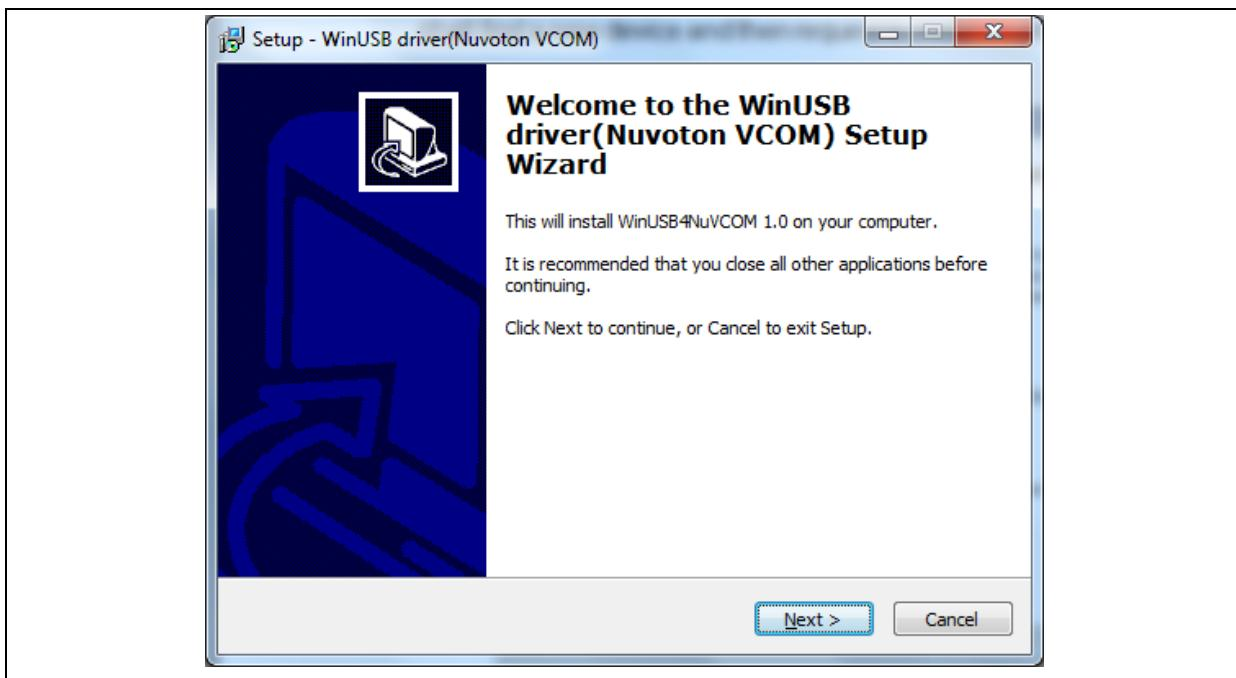

Figure 2-1 WinUSB4NuVCOM Driver Setup (1)
Step 1: After connecting the computer and the MA35 through USB cable, after turning on the power of the MA35, Windows will find a new USB device and select the executable file *WinUSB4NuVCOM.exe* on the computer to start installing the driver. (Figure 2-1)